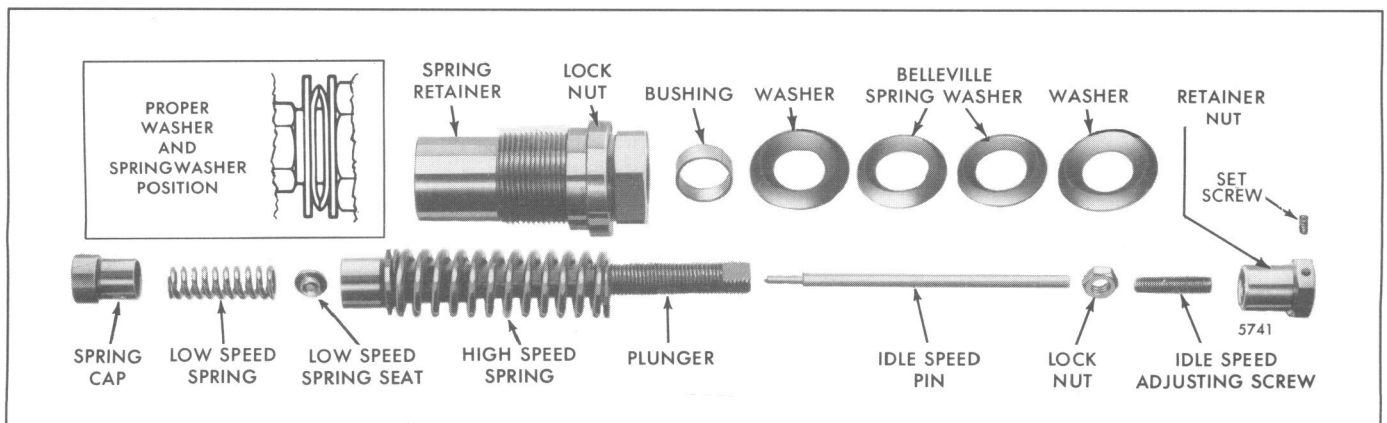

Fig. 14 – High and Low-Speed Springs and Plunger Details Including Belleville Washers (TTA Engines)
6. While holding the wedge in the bottom position, use a feeler gauge to measure the gap between the low speed spring cap and the high speed spring plunger (see Figs. 14 and 15). The gap should measure .003" – .019". Reset the gap to .008" if the measured gap is out of limits (see "GOVERNOR GAP ADJUSTMENT PROCEDURE" below).
Before adjusting the gap on "TT" governors, the Belleville spring retainer nut must be backed out until there is approximately .060" clearance between the washers and the retainer nut (see Fig. 14).
7. Use a feeler gauge to set the gap between the low speed spring cap and the high speed spring plunger at .008". Then tighten the governor gap adjusting screw lock nut (see Figs. 14 and 15).
1. Position the idle screw. On all Non-“TT” governors with a normal 1.00" long idle adjustment screw, the screw should be set so that it extends .325". On all “TT” governors with a normal 1.00" long idle adjustment screw, the screw should be set to extend .400". This dimension is measured from the face of the idle speed adjusting screw lock nut to the end of the idle speed adjusting screw with a tolerance of $\pm .015$ " (see Fig. 14). For governors with a variable high-speed option, which use a 1.75" long idle adjustment screw, the screw should be set to extend 1.075" on all non-“TT” governors or 1.150" on all “TT” governors.
6. With the wedge in the bottom position, use a feeler gauge between the low speed spring cap and the high speed spring plunger to set the gap at .008". Then tighten the governor gap adjusting screw lock nut (see Figs. 14 and 15).